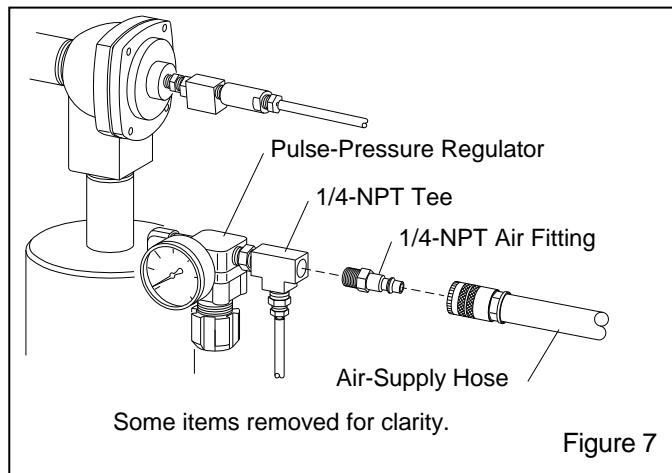

Figure 7
2.8 Connect Compressed-Air Supply – Figure 7
2.8.1 Connect a 1/4-NPT air fitting, that is compatible with the air-supply hose (refer to Paragraph 2.8.2), to the inlet tee on the pulse-pressure regulator. Note that the style of connections shown in Figure 7 is for reference only.